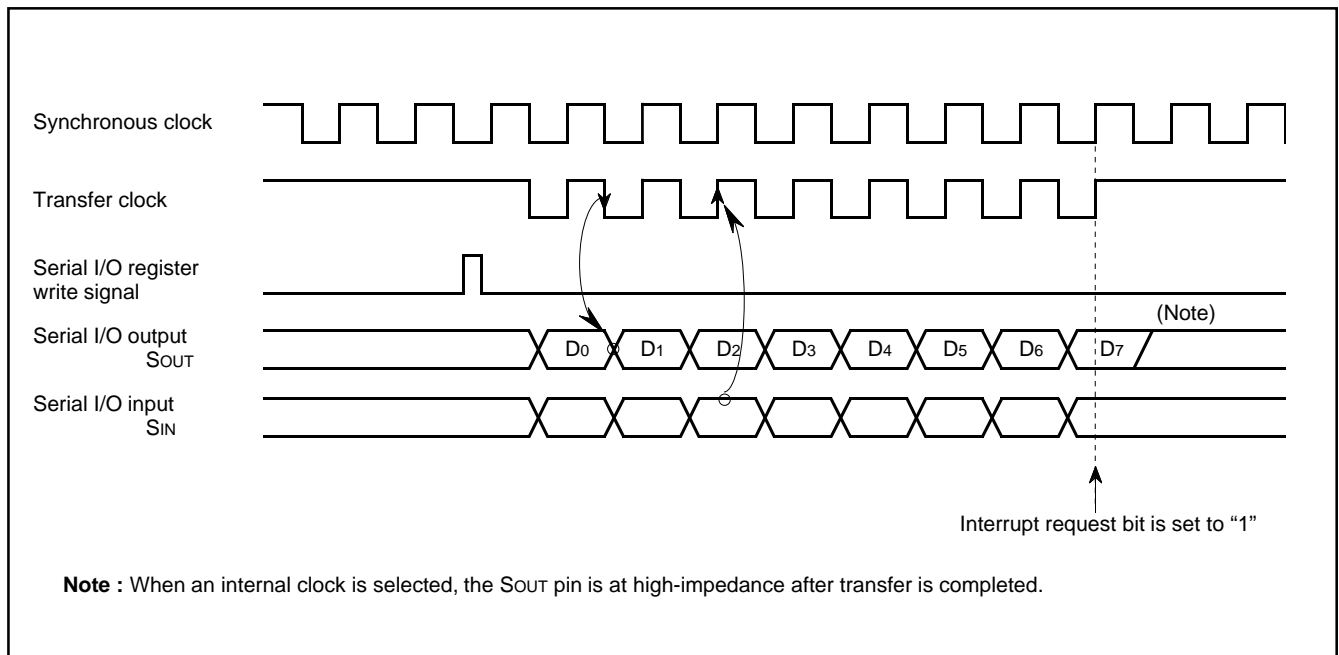

Fig. 8.5.2 Serial I/O Timing (for LSB first)
**External clock :** The an external clock is selected as the clock source, the interrupt request is set to “1” after the transfer clock has been counted 8 counts. However, transfer operation does not stop, so the clock should be controlled externally. Use the external clock of 500 kHz or less with a duty cycle of 50 %. The serial I/O timing is shown in Figure 8.5.2. When using an external clock for transfer, the external clock must be held at HIGH for initializing the serial I/O counter. When switching between an internal clock and an external clock, do not switch during transfer. Also, be sure to initialize the serial I/O counter after switching.